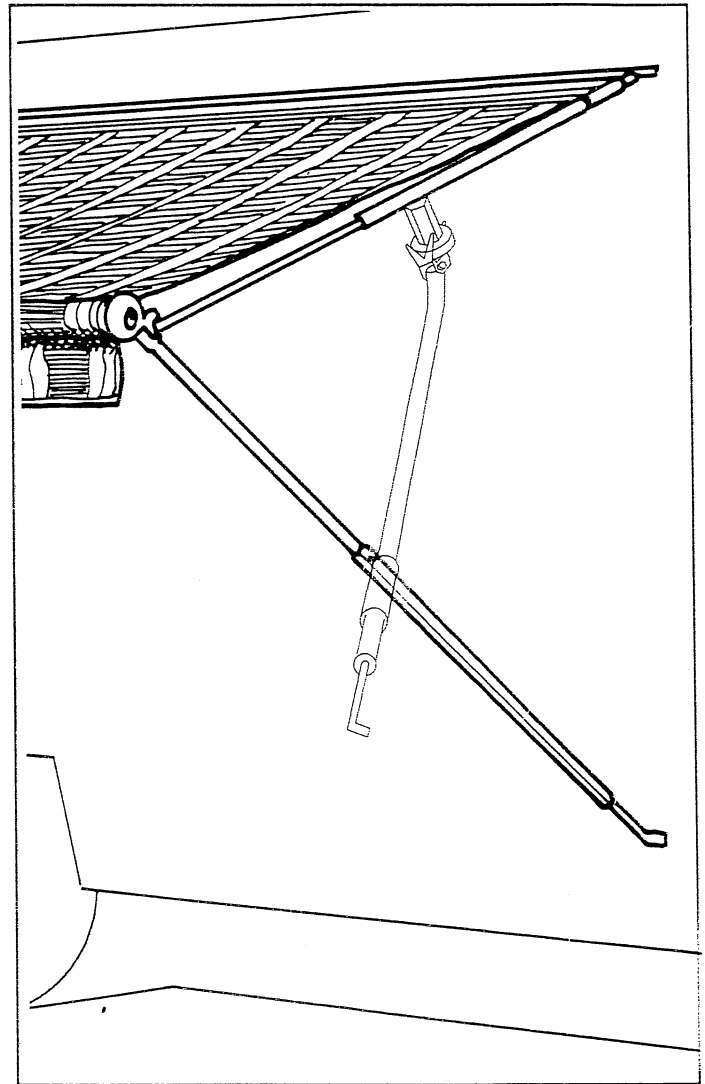

Figure 2
4. Using awning helper, raise rafter arm and position claw in the rafter key lock. **Figure 2.**